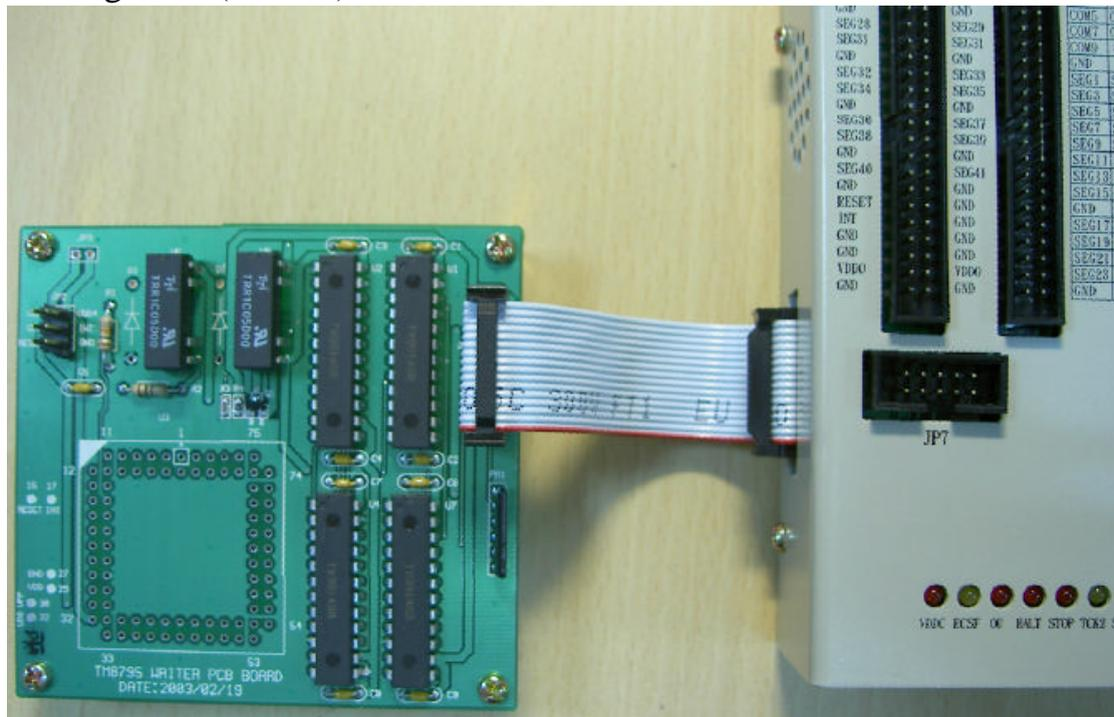

Figure 10
12. JP10: TM8740 Bus line for externally connected boards. Please refer to Figure10.(Note :3)